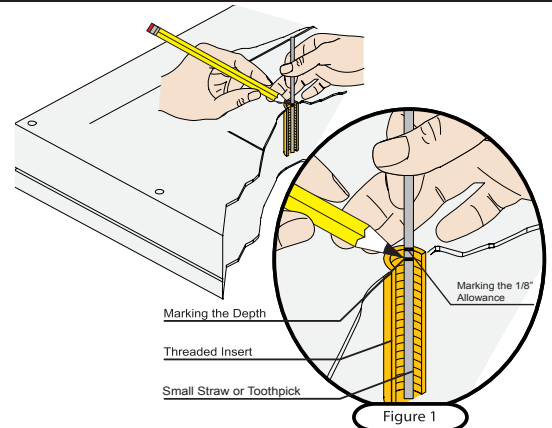

Figure 1
- Mark the straw or toothpick 1/8" above the depth of the threaded insert, as shown in Figure 1.